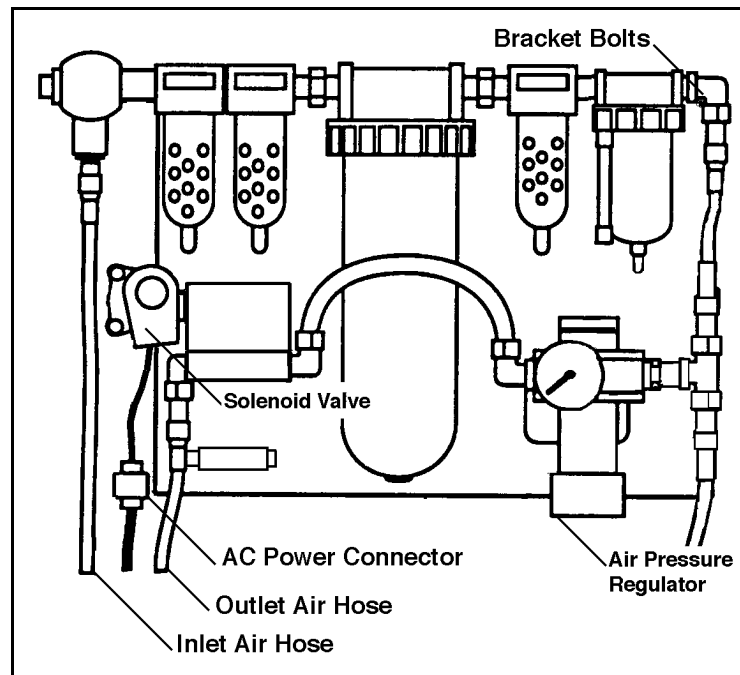

Figure 5-2. Air Preparation Assembly
1. Use a 7/8 inch open ended wrench to disconnect the inlet hose to the air pressure/regulator (see Figure 5-2 for locations).
1. Use a 7/8 inch open ended wrench to disconnect the inlet hose to the valve (see Figure 5-2 for locations).